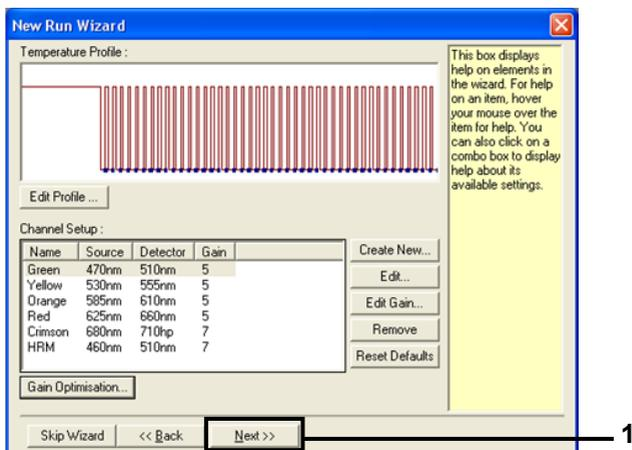

Figure 13. Saving the EGFR RGQ PCR Kit template. (1 = "Next")
15. Click **Next** (Figure 13) to save the EGFR RGQ PCR Kit template (\*.ret file) in an appropriate location by selecting **Save Template**.